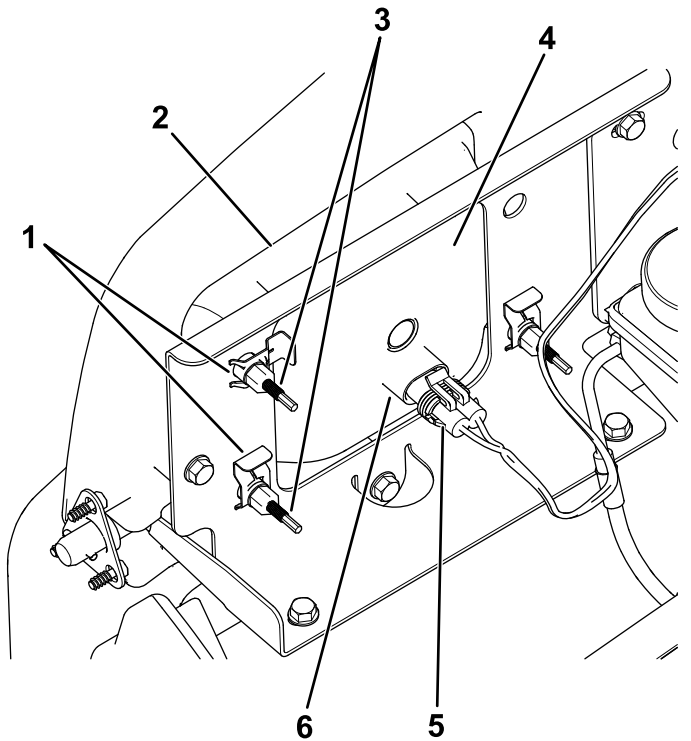

Figure 48
3. Disconnect the electrical connector for the harness from the connector of the lamp assembly (Figure 48).
4. Remove the speed clips that secure the headlight to the headlight bracket (Figure 48).
5. Remove the headlight assembly by moving it forward through the opening in the front bumper (Figure 48).
6. Install the new headlight through the opening in the bumper (Figure 48).
8. Connect the electrical connector for the harness to the connector of the lamp assembly (Figure 48).
5. At the back of the headlight assembly, rotate adjustment screws (Figure 48) to pivot the headlight assembly and align the position of the cast beam.